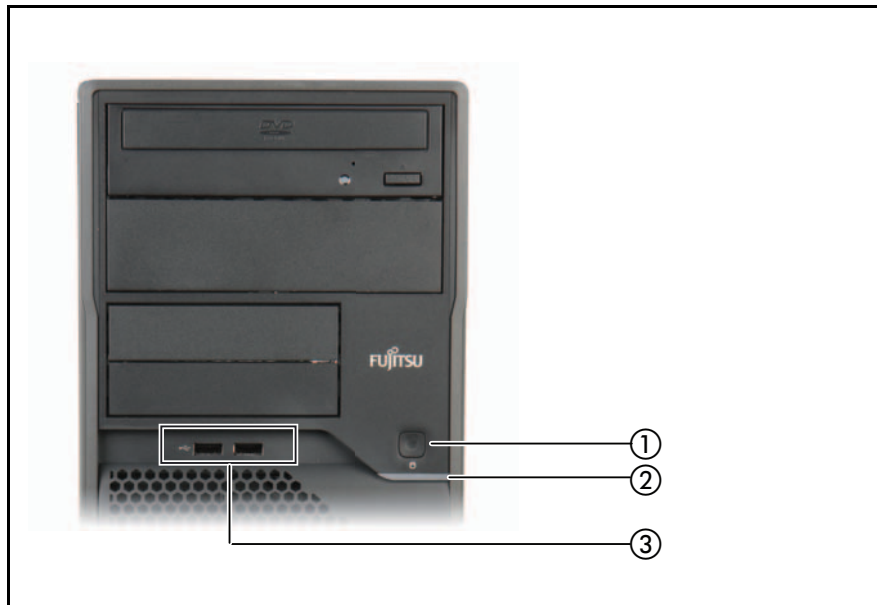

Figure 5: Front panel
Two additional USB connectors are located on the front of the server (see figure 5 on page 50).
- ▶ Press the On/Off button (see item 1 in figure 5 on page 50).